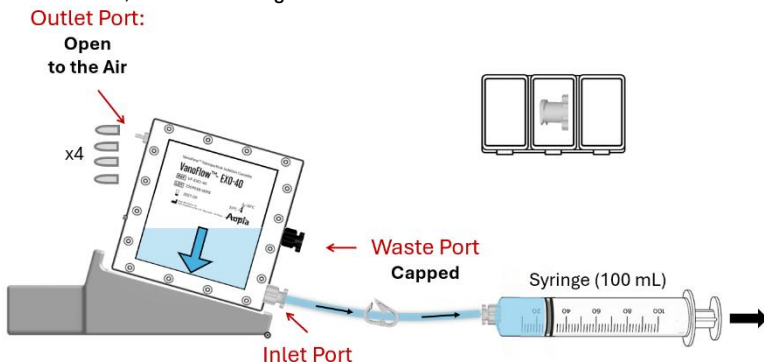

Figure 5 - Storage buffer removal
- Remove **All** the silicone caps (x4) from the cassette while keeping the Waste Port capped. Connect a syringe to the Inlet Port and draw the cassette storage buffer from the cassette, as shown in Figure 5.